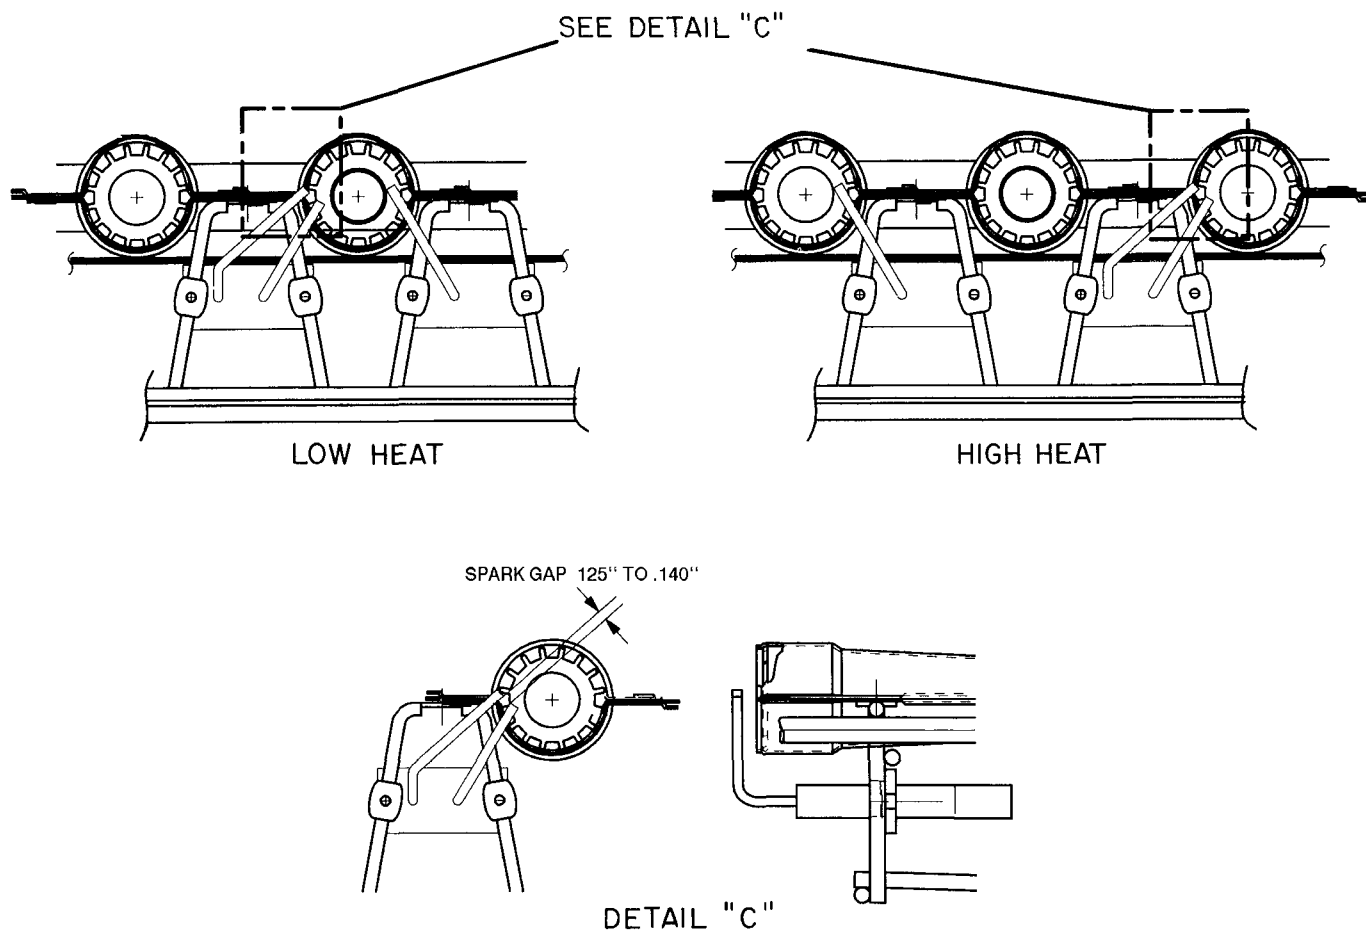

Fig. 23 — Spark Adjustment
4. Adjust spark gap. See Fig. 23.